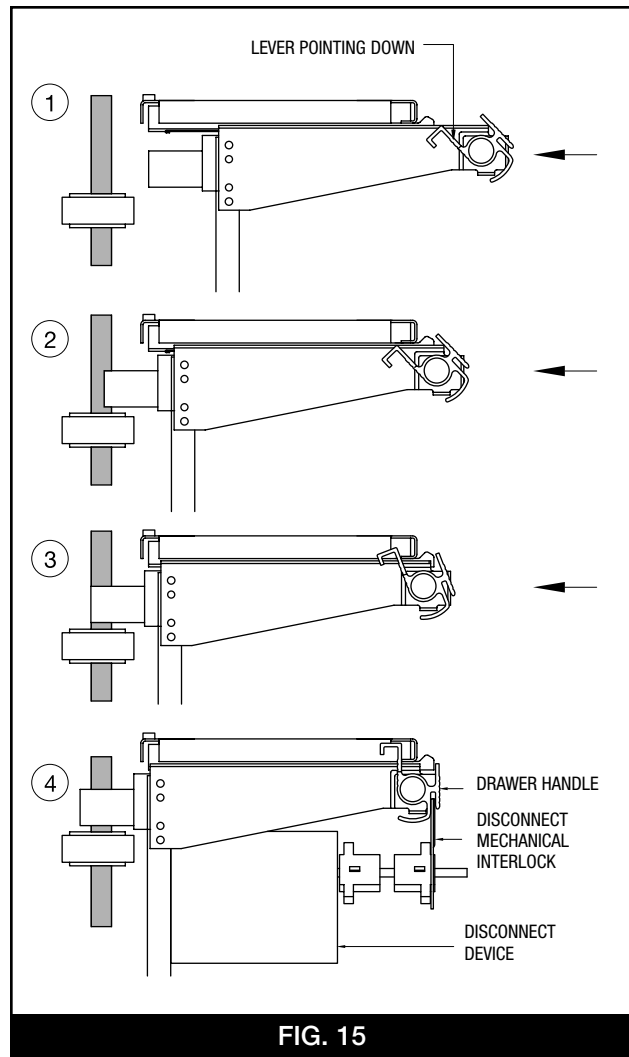

FIG. 15
3. The unit disconnect should be in the OFF position and make sure that the drawer lever is pointing toward the bottom of the control unit (Fig.15).